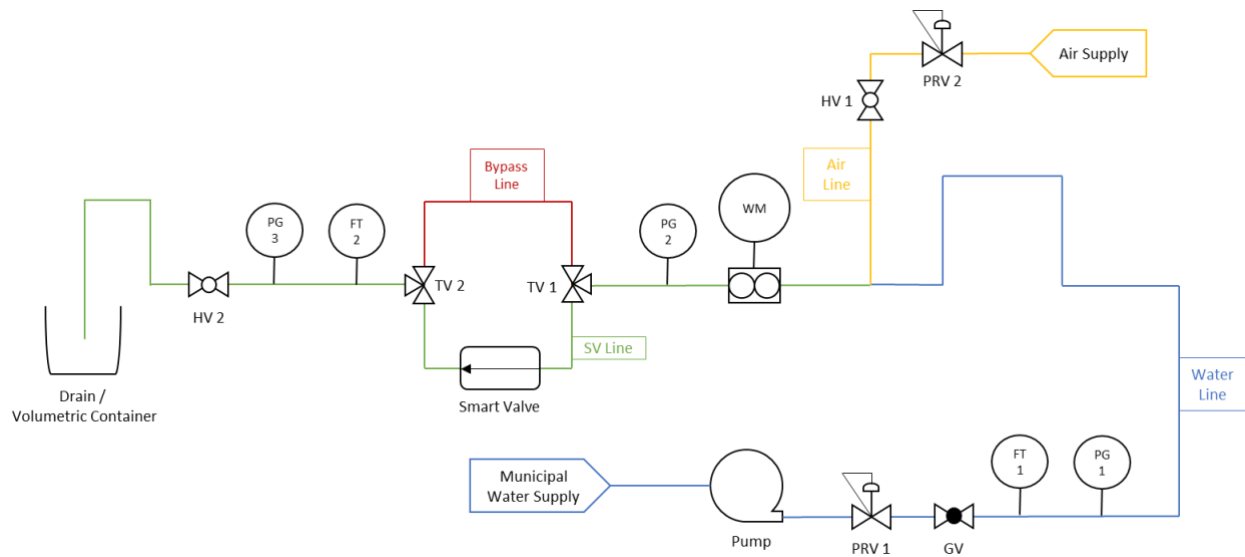

Figure 1: P&ID of the smart valve test setup
All tests stated in section 2 were conducted on the test set up as represented in the figure 1. The test setup is divided into four lines distinguished by different colors. These four lines are: Water (Blue), Air (Yellow), Smart Valve (SV) (Green) and Bypass (Red). Water line supplies water to the system at either municipal supply pressure or higher (using pump). Air line supplies air to the system which shall be used to introduce air bubbles in the water stream. Smart valve is installed on the SV line which runs parallel to the bypass line. Bypass line is used to measure readings when the smart valve is not in the system. Three way valves, TV1 and TV2, can be used appropriately to direct the flow through either SV line or the bypass line. Pressure regulating valves, PRV1 and PRV2, are installed to regulate water and air inlet pressures respectively. Pressure gauges, PG1, PG2 and PG3, indicate pressures at the inlet, after water meter, and at the outlet respectively. Globe valve, GV1, is installed to control the volume flow rate of water. Flow rate meters, FT1 and FT2, indicate real-time volume flow rate of the fluid flowing through the system at the inlet and outlet respectively. Water meter, WM, is installed to indicate the fluid volume flowed through the system for each test case. A 5 gallon capacity volumetric container is also added at the outlet to measure the volume of water flowed through the system. With this setup, all the test requirements can be addressed. Refer Annexure 1 for actual images of the test setup and Annexure 2 for scaled P&ID.
Based on the process and instrumentation diagram in figure 1, following equipment were used for development of the test setup:
Each test condition was conducted three times for ensuring the repeatability of test results. Refer to P&ID in Figure 1 to navigate along the test procedures.